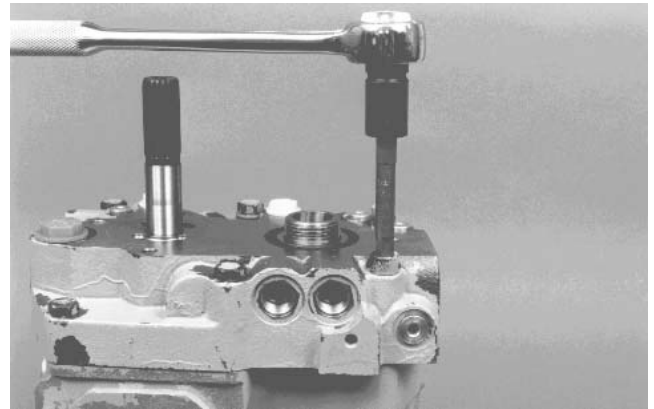

Figure 39
2. Remove six (6) screws securing the center section to the housing. Note position of longer and shorter screws. The cylinder block springs will cause the center section to separate from the housing (Fig. 39).